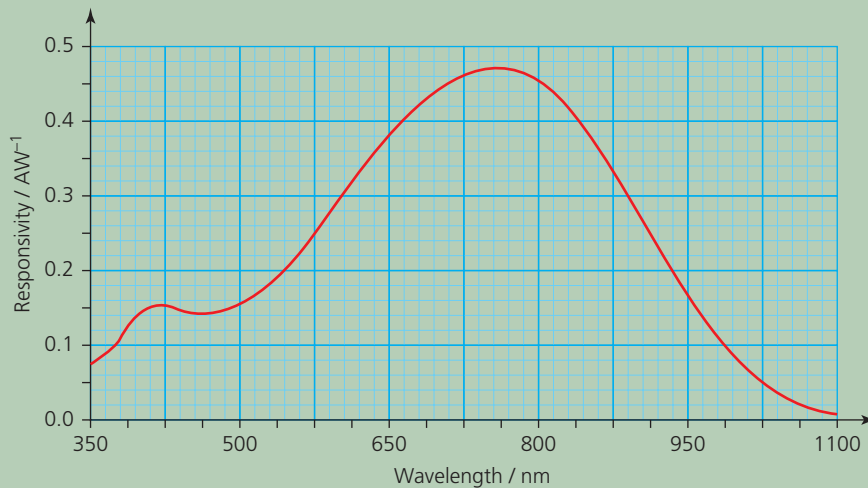

Figure Q3
3. The spectral response of a photodiode is shown in Figure Q3.